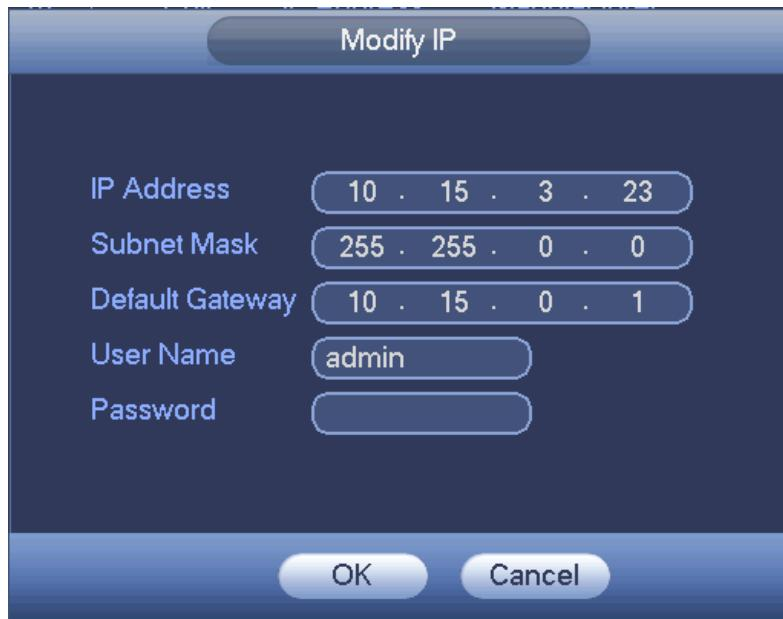

Figure 4-66
- ❖ Click  , you can change the information such as IP address, subnet mask, and default gateway, user name, password of the checked device. See Figure 4-66.